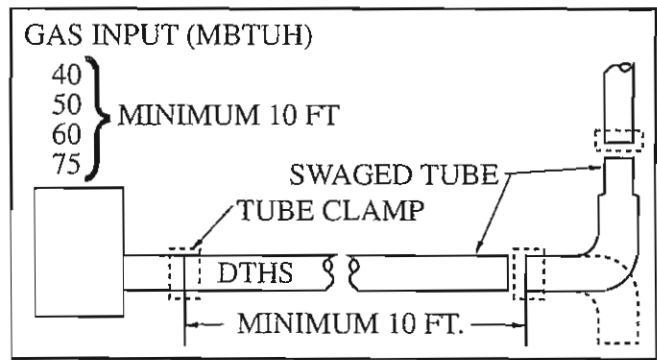

Figure 1-2
- A maximum of two 90° elbows (factory-supplied Part No. E6 **only**) can be installed on DTHS model heaters. The gas input of the heaters, as stated on the rating label, will determine the minimum length of the 4 in. diameter emitter pipe from the control box to the first elbow. (See Figures 1-2 and 1-3.)